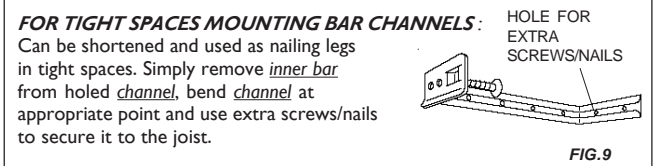

FIG.9
2. For joist spacing less than 16" on center (to 12" on center). Mounting bar channels can be shortened and used as nailing legs in tight spaces. Simply remove inner bar from holed channel and use nails to secure it to the joist. (Fig.9)